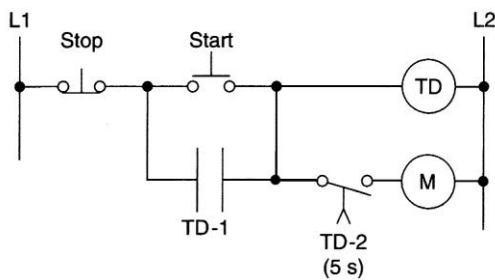

Figure 7-19 Hardwired timer circuit for assignment 3.
3) Prepare an I/O connection diagram and ladder logic program to execute the hardwired timer circuit shown in Figure 7-19. Enter the program into the PLC, and prove its operation.